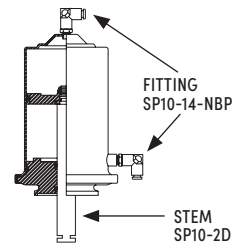

FIG. 5 - SP30 ACTUATOR
- An SP-30/130 actuator is air-to-air meaning the actuator must be energized in the appropriate direction to retract the stem/seat and disassemble the valve body. It will have two air fittings and no spring or “normal/de-energized” state. (See fig. 6-7.) Energize through fitting (see fig. 5) to open the valve.